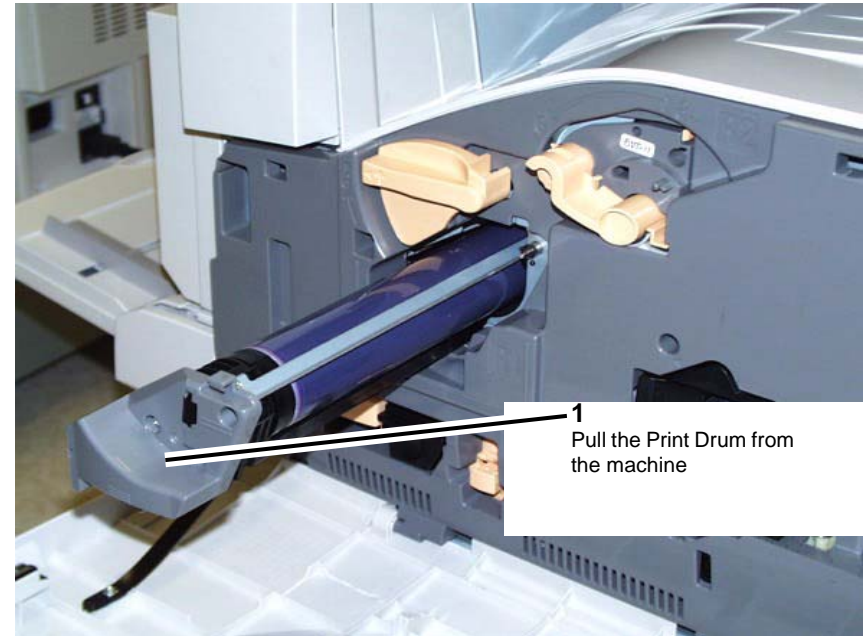

Figure 2 Removing the Print Drum
3. Removing the Print Drum from the machine. (Figure 2)